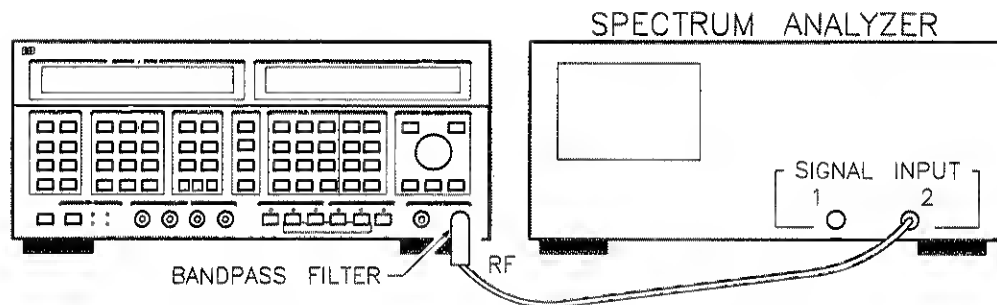

Figure 3-12. Equipment Setup for the Sweep Exercise.
1. Connect the Signal Generator to a bandpass filter and spectrum analyzer as shown in figure 3-12. Turn on the equipment and make the following adjustments on the spectrum analyzer: